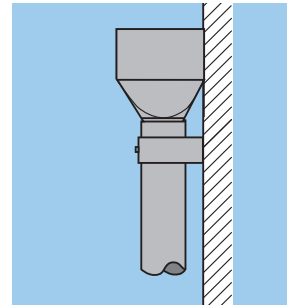

Fig.20a
- Direct push-fit connection at correct distance from wall (Fig.20a)